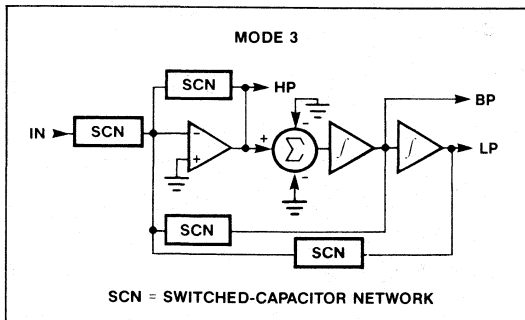

Figure 9. Filter Mode 3: Second-Order Bandpass, Lowpass and Highpass
**MODE 3** (Figure 9) is the only mode which produces high-pass filters. The maximum clock frequency is somewhat less than with MODE 1 (See Table 1).